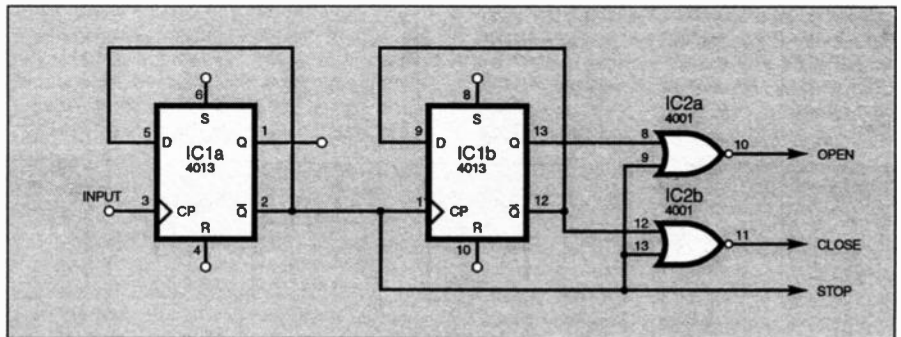

Fig. 5.11. Circuit for controlling a 3-event sequence.
It is sometimes necessary to perform a sequence of events which move step by step with a clock pulse. Take, for example, the circuit in Fig. 5.11. This uses two D-type bistables and two NOR gates to control a sequence of three events, Open, Close and Stop.
To sum up, the sequence controlled by the circuit in Fig. 5.11 is:
In Fig. 5.11, clock pulses are fed to IC1a pin 3. Output pin 1 (Q) is not connected but is shown for reference. Output pin 2 ( $\bar{Q}$ ) is used as the clock source for the next bistable and provides the input logic level to Inputs B of both NOR gates IC2a and IC2b. Thus:
Table 5.1. Logic table for Fig. 5.11.